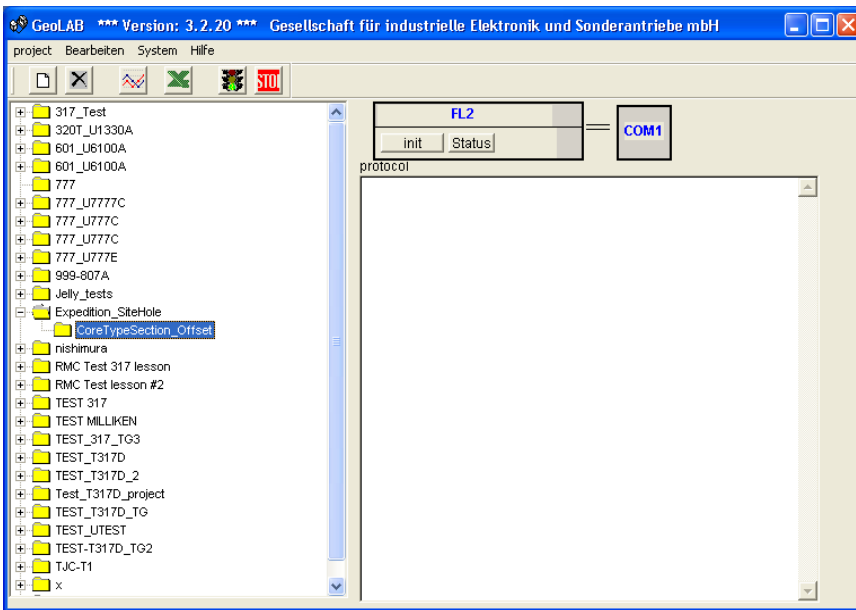

Figure 2. New Project.
2. Start a new project for each site: **Project > new > project > Expedition_SiteHole** (*Figure 2*).
4. Keep the subdirectory highlighted, and click on **EXCEL** from within the application (*Figure 2*).
2. Open the Excel spreadsheet from within **GeoLAB** by clicking on the **Excel** icon (Figure 2).